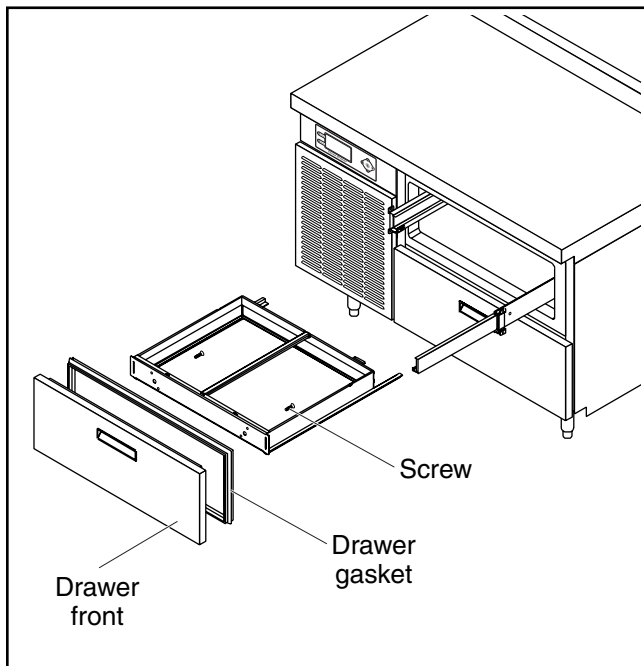

Figure 3. Drawer Front Assembly
The drawer gasket is installed on the inner side of the drawer front and fitted into a slot (Figure 3).
1. Remove the drawer from the refrigeration unit (Figure 3).